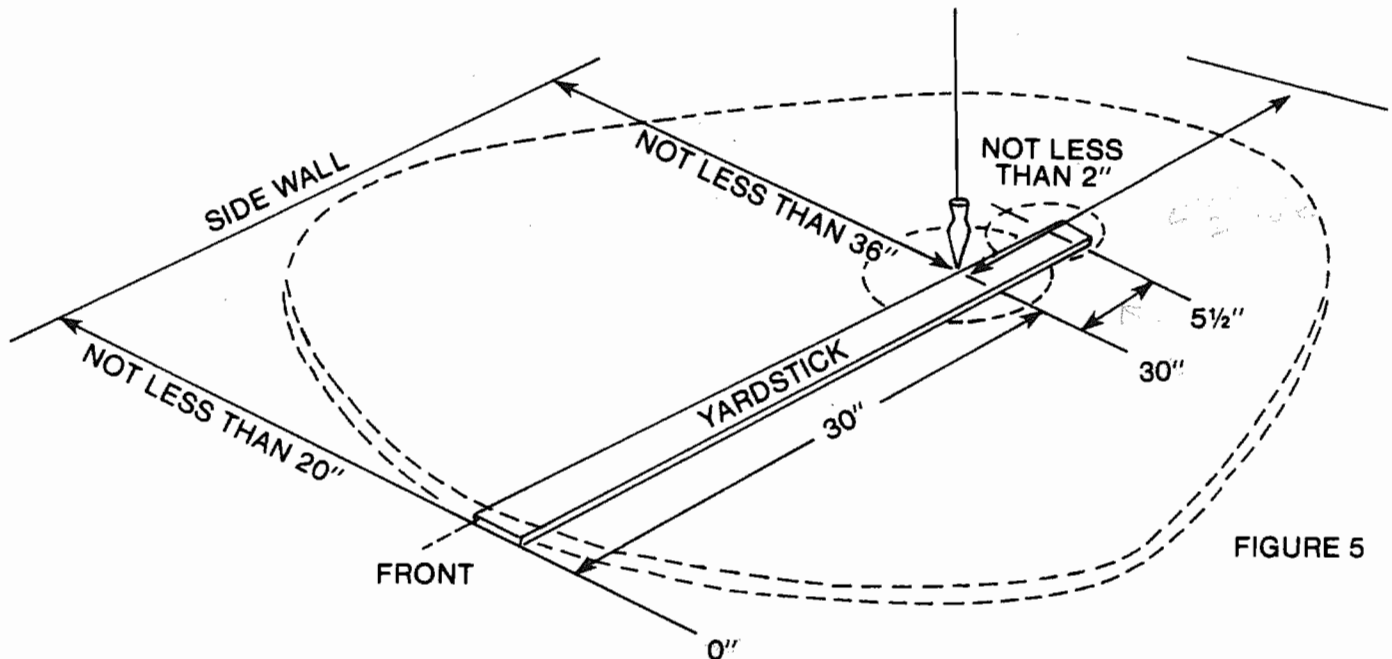

FIGURE 5
NOTE: After marking the spot on the ceiling for the chimney pipe, locate the hearth and air combustion air inlet positions as shown in Figure 5. DO NOT begin installation of the chimney until you have marked these locations, as it may be necessary to change the position where the chimney will be installed.
2. Mark the center spot on the floor (see Figure 5).